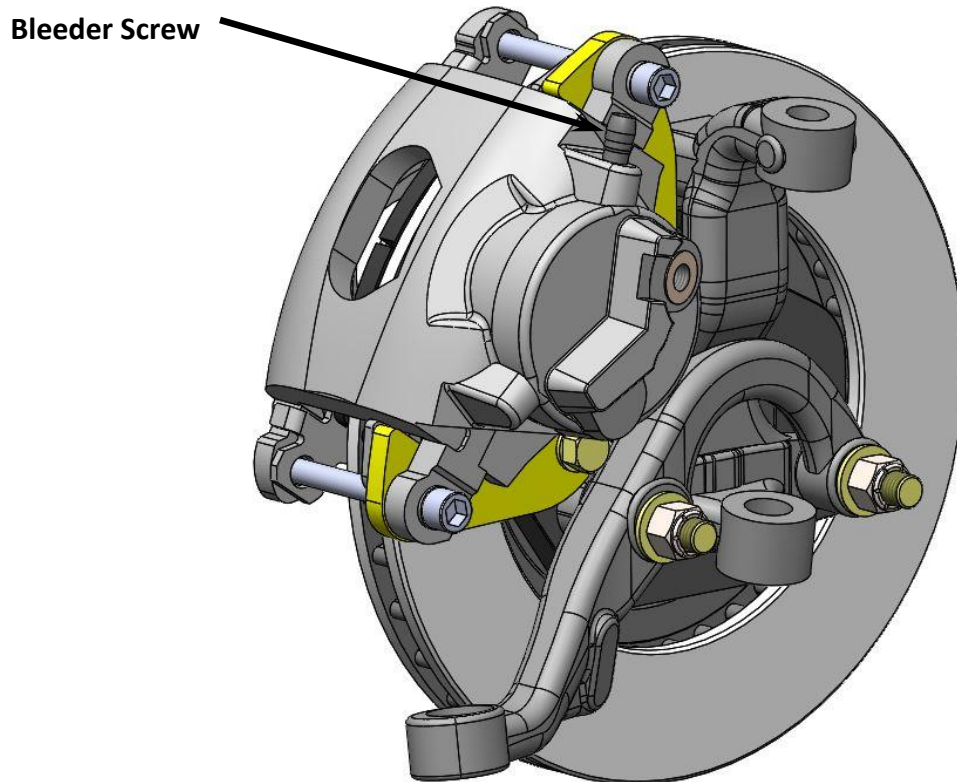

Figure 7 – Caliper Installed (Driver Side F-Body Spindle Steer Arm Shown Above)
8. Mount the caliper to the caliper mounting bracket. With the pads installed in the caliper, slide the caliper over the rotor and line up the mounting ears of the caliper with the holes in the caliper mounting bracket. Tighten and torque the bolts to 45 ft/lbs. **NOTE:** When installing the calipers, make sure the brake bleeders are pointing upward. See Figure 7 below for reference.